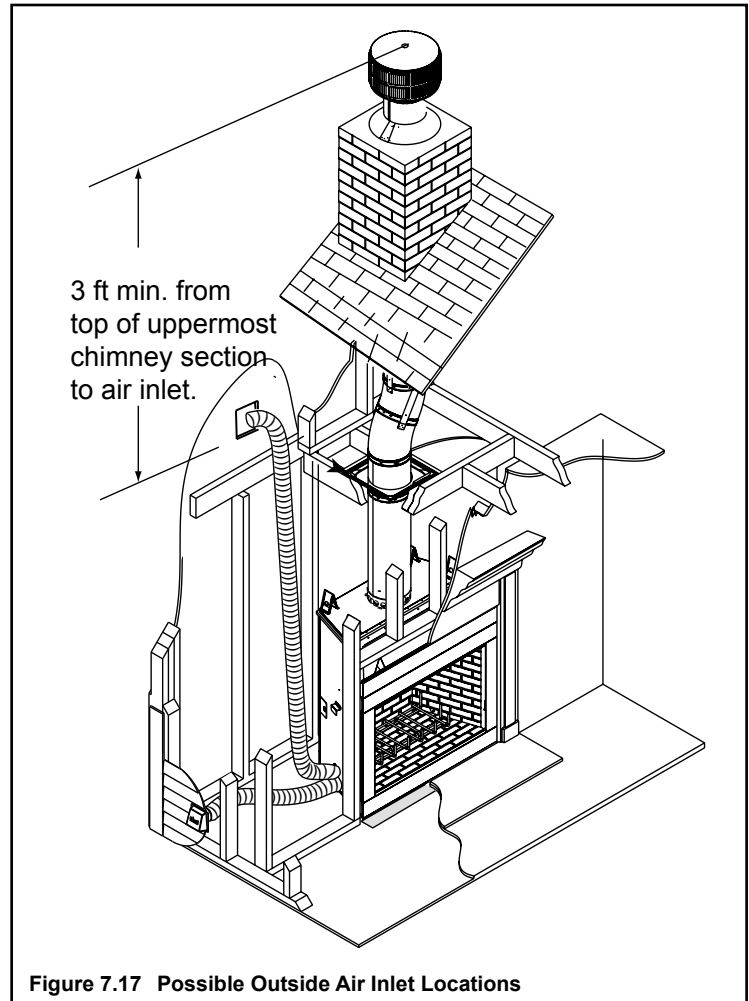

Figure 7.17 Possible Outside Air Inlet Locations
- Refer to Figures 7.17 through 7.21.
- The outside air hood must be at least 3 ft (.91 m) below the top of the uppermost chimney section as shown in Figure 7.17.